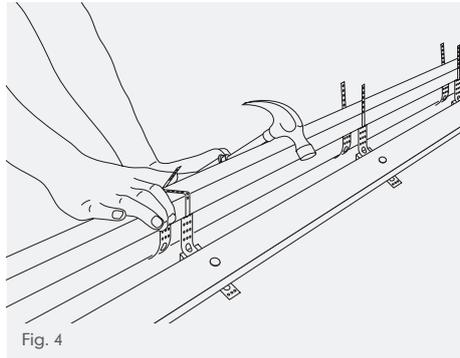

Fig. 4
- Place the ridge batten(s) along length of ridge between the perforated straps of ridge batten brackets. Bend over the straps and nail each securely to the ridge batten using the nails supplied. Joints in ridge batten should be made half way across a ridge batten bracket to ensure the ends are secured (Fig. 4).